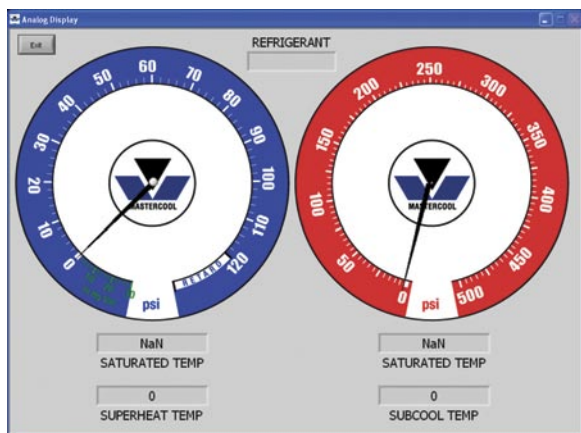

Fig. 12
- 1) Select the ANALOG DISPLAY button to enter the analog mode. A separate window will display showing the digital data in an analog format (fig. 12).